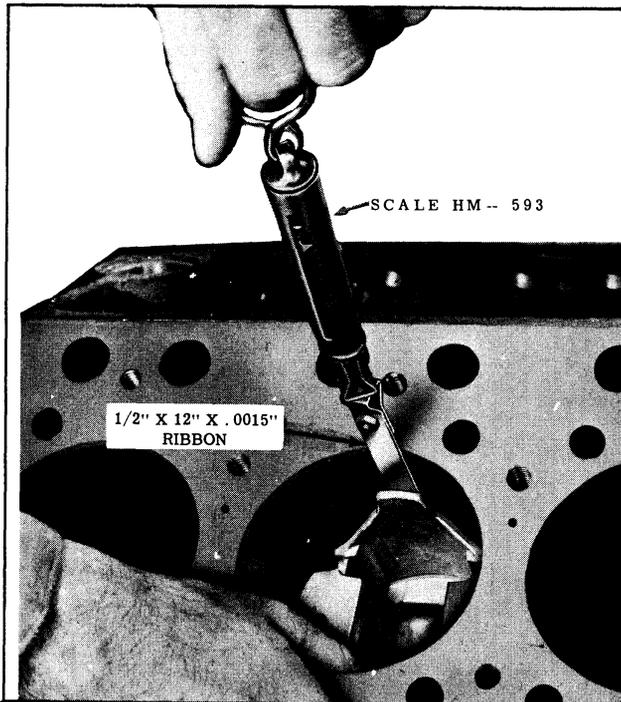

Fig. 8-23 Fitting Piston to Cylinder
1. Place a 1/2" x 12" x .0015" ribbon attached to scale HM-593-A against the upper side of the bore, at 90° to the normal piston pin location. (See Fig. 8-23)